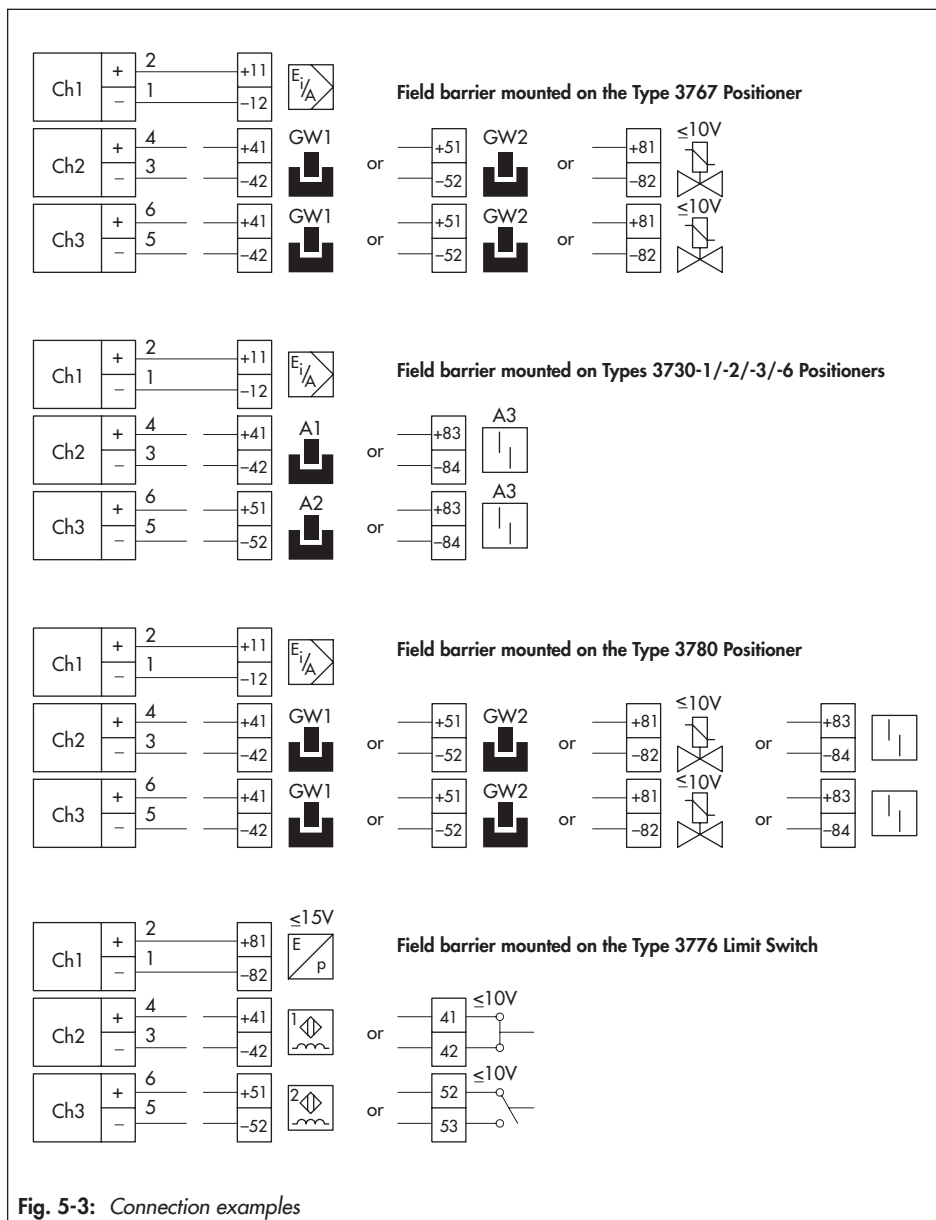

Fig. 5-3: Connection examples
- Guide the free wiring ends of the field barrier from Ch1 or Ch2 and Ch3 (channel 1, 2 and 3) to their assigned terminals (Fig. 5-2 and Fig. 5-3).